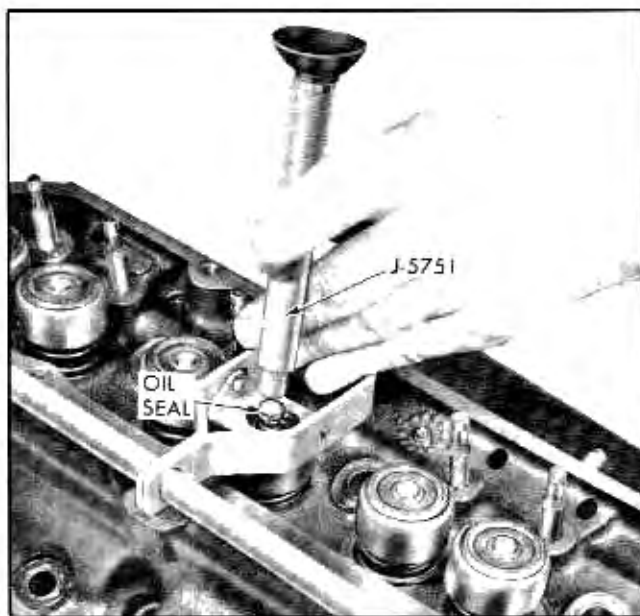

Fig. 6-46 Installing Intake Valve Stem Seal
2. Install valves, valve springs, valve stem shields, valve spring retainer cups, valve stem seals and retainer cup locks using suitable spring compressor. The valve stem seals must be installed in the second groove (from end of stem). Valve Stem Seal Installer and Tester J-5751 can be used to install this seal (Fig. 6-46).